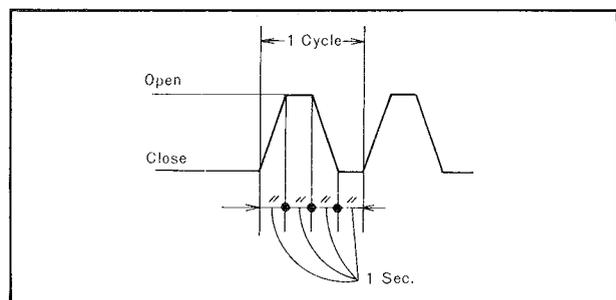

Fig. 4-9 Test pattern
6. Fully operate the throttle lever ten times according to the cycle as shown in Fig. 4-9, by means of the throttle lever or accelerator pedal and check the amount of discharge by reading the decrease of fuel in the burette.